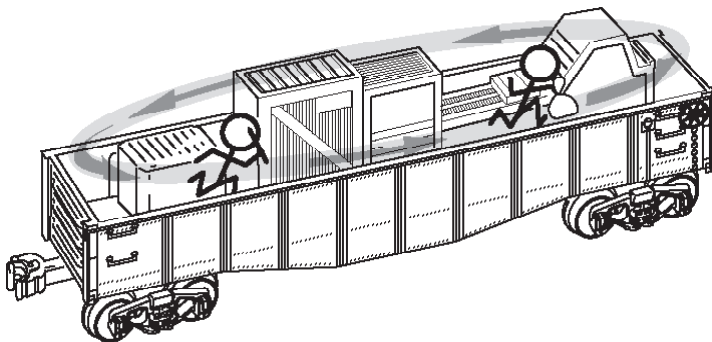

Figure 11. Animated gondola operation
**Y**our animated gondola is equipped with a gear drive mechanism which propels the two figures around the pile of freight in the center of the gondola whenever the car is moving. See figure 11.